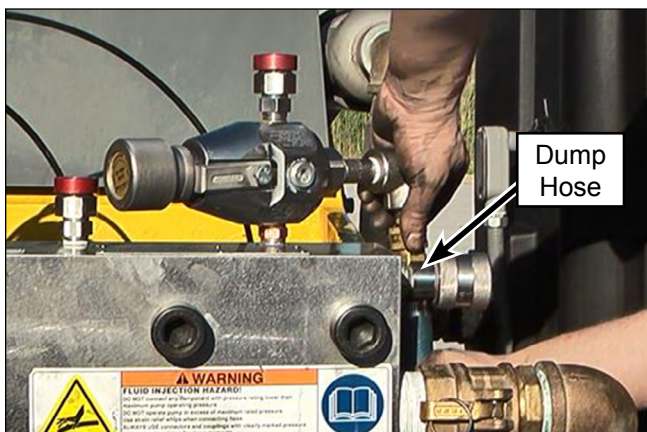

Figure 99: Remove Dump Hose.
1. Remove the dump hose (Figure 99) from the bypass valve.